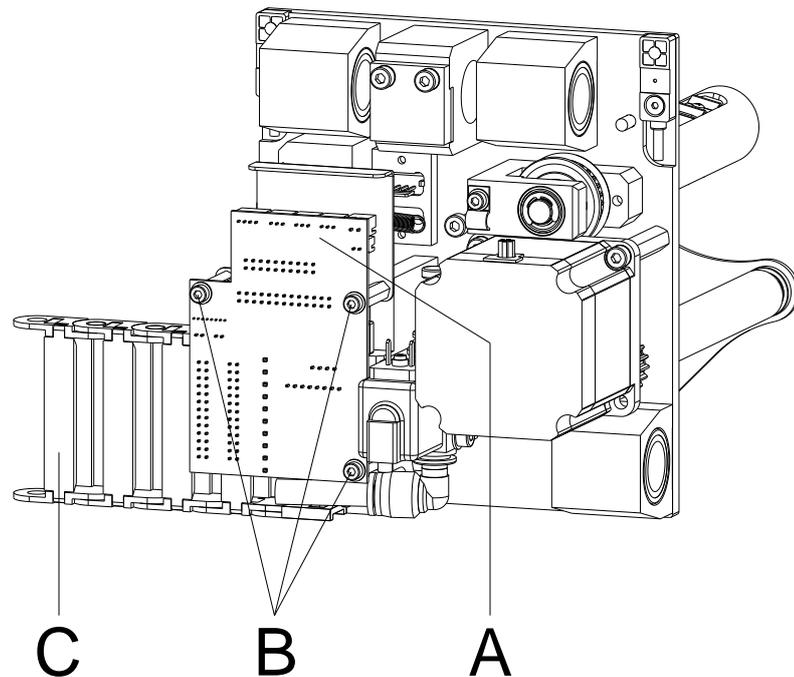

Figure 31
2. Close the energy chain. For this procedure, close the opening crossbars (C, Figure 31).
4. Place the print carriage PCB (A, Figure 31) and tighten it with the three screws (B, Figure 31).